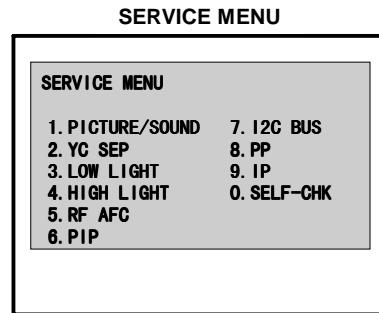

Fig.1
- 2) The SERVICE MENU screen of Fig.1 is displayed.
- 3) Verify what to set in the SERVICE MENU, and set whatever is necessary (Fig.1).